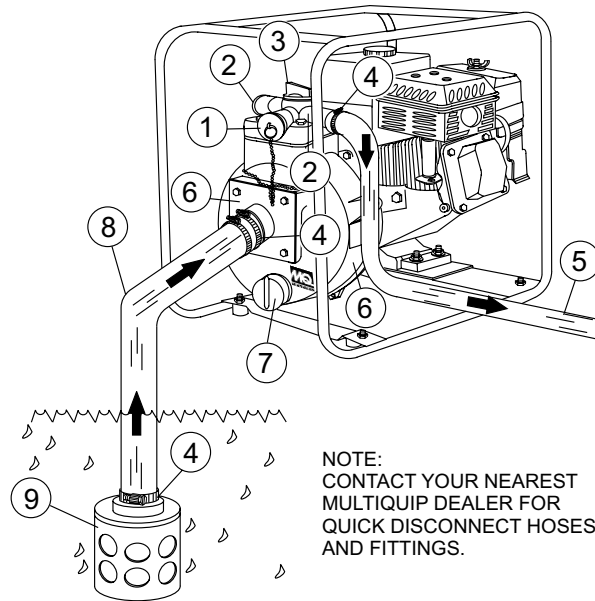

Figure 3. Pump Application
Figure 3 shows a typical application using the QP205SH centrifugal pump. Please note that this pump is intended for the removal of clean water.
2. To prime pump, remove fill cap (See Figure 3) and fill pump casing with water. If the pump casing is not filled with water before starting, it will not begin pumping.
3. Attach suction and discharge hoses to the pump. Check that all hoses are **securely** attached to the pump. Make certain suction hose (See Figure 3) does not have any air leakage. Tighten hose clamps and couplings as required.
6. Check that the **discharge** hose (See Figure 3) is not restricted. Place hose so that it lays as straight as it is possible on the ground. Remove any twists or sharp bends from hose which may block the flow of water.
8. Make sure the **suction strainer** (See Figure 3) is clean and securely attached to the water end of the suction hose. The strainer is designed to protect the pump by preventing large objects from being pulled in to the pump.